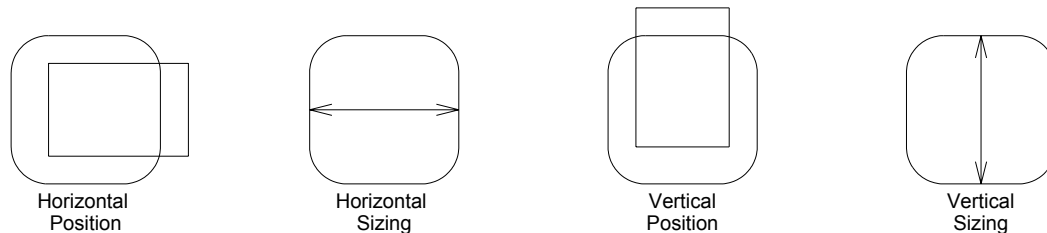

Figure 1, Monitor Adjustment Symbols
58. Using the **Select** “+” or “-” buttons on the front of the monitor, highlight **Horizontal Position** symbol, as shown in figure 1 below.
60. Using the **Select** “+” or “-” buttons on the front of the monitor, highlight **Horizontal Sizing** symbol, as shown in figure 1 below.
62. Using the **Select** “+” or “-” buttons on the front of the monitor, highlight **Vertical Position** symbol, as shown in figure 1 below.
64. Using the **Select** “+” or “-” buttons on the front of the monitor, highlight **Vertical Sizing** symbol, as shown in figure 1 below.